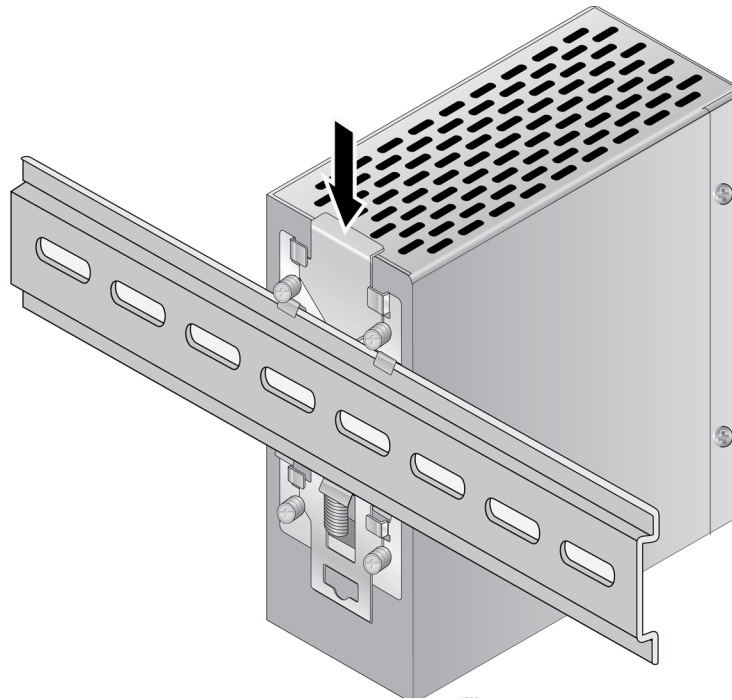

Figure 7. Installing the Switch on the DIN Rail
4. While holding the switch with one hand, press the bracket from the top and snap the bracket onto the DIN rail as shown in Figure 7.